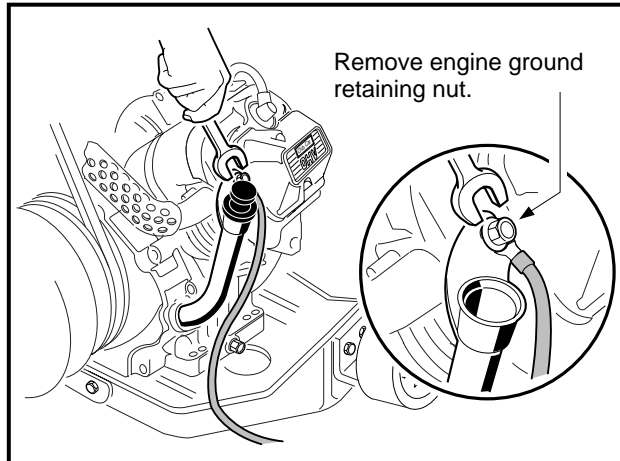

Figure 16-14 Engine Ground Wire
- 3.6. Disconnect the engine ground wire from oil filler tube mounting bracket (**Figure 16-14, Page 16-9**).